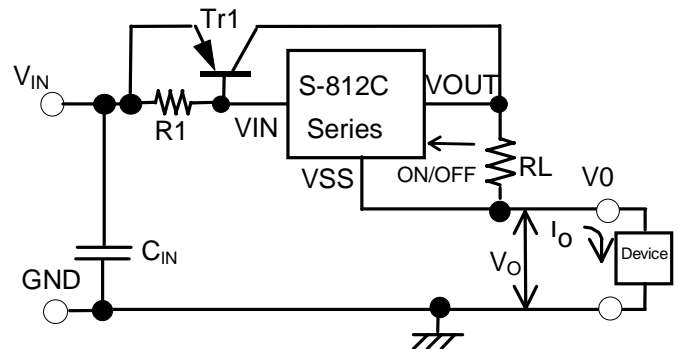

Figure 12 Constant Current Circuits
The S-812C series can be served in a constant current circuit as shown in the figure 12. Constant current  $I_O$  is calculated from the following equation:
Please note that in case of the circuit shown in the figure 12 (1) the magnitude of the constant current  $I_O$  is limited by the driving ability of the S-812C.
The circuit shown in the figure 12 (2) can, however, provide the current beyond the driving ability of the S-812C by combining a constant current circuit with a current boost circuit. The maximum input voltage for the constant current circuit is the sum of the voltage  $V_O$  of the device and 16 V. It is not recommended to attach a capacitor between the S-812C power source  $V_{IN}$  and  $V_{SS}$  pins or between output  $V_{OUT}$  and  $V_{SS}$  pins because rush current flows at power-on.
(1) Constant Current Circuit
(2) Constant Current Boost Circuit